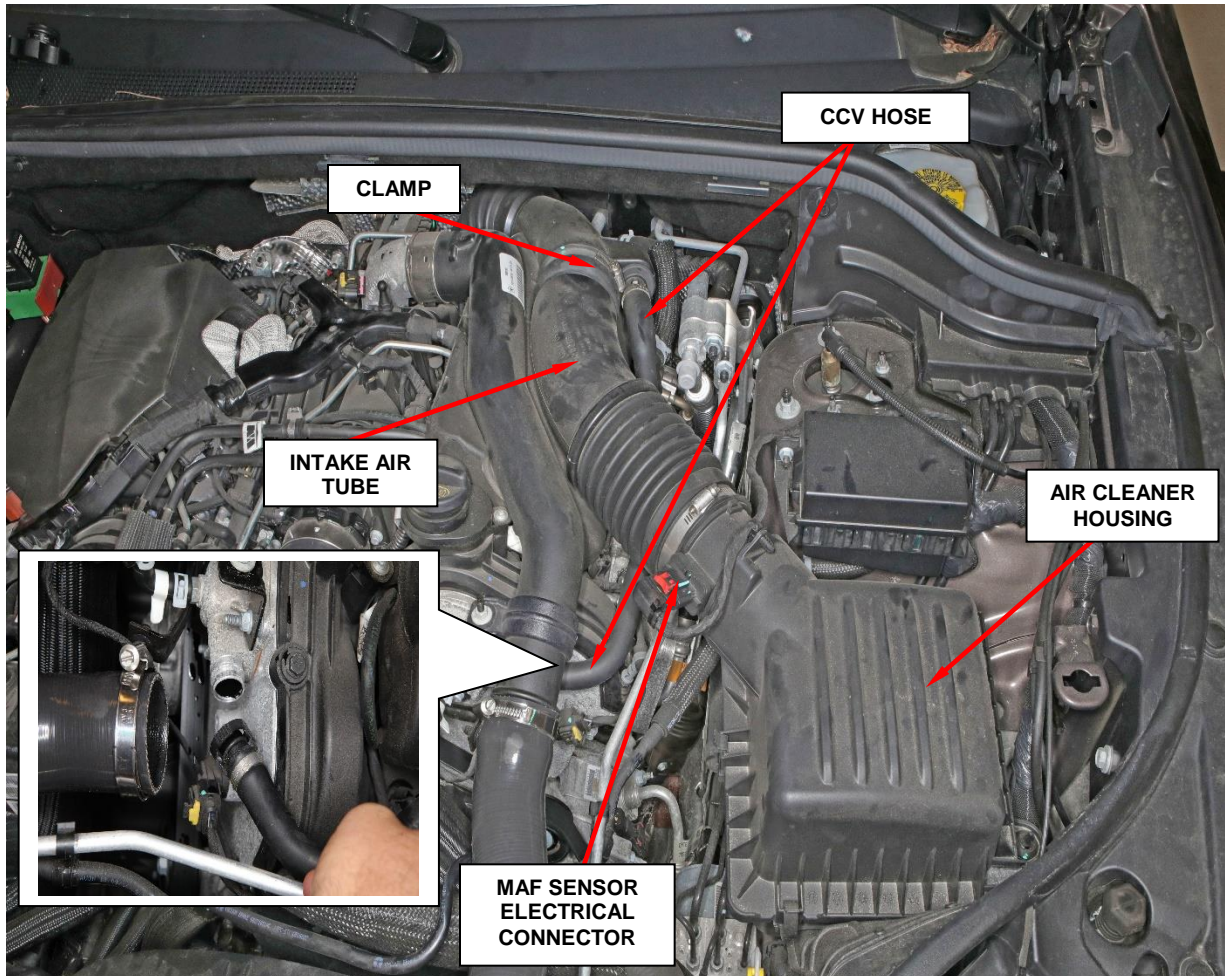

Figure 6 – Air Cleaner Housing
1. Disconnect the electrical connector from the Mass Air Flow (MAF) sensor (Figure 6).
2. Loosen clamp and disconnect the intake air tube from air cleaner housing (Figure 6).
3. Unclip the top of the Air Cleaner Housing and remove the top housing (Figure 6).
- Loosen the air intake clamp at the turbocharger intake at the back of the engine and remove the turbocharger air intake tube (Figure 6).